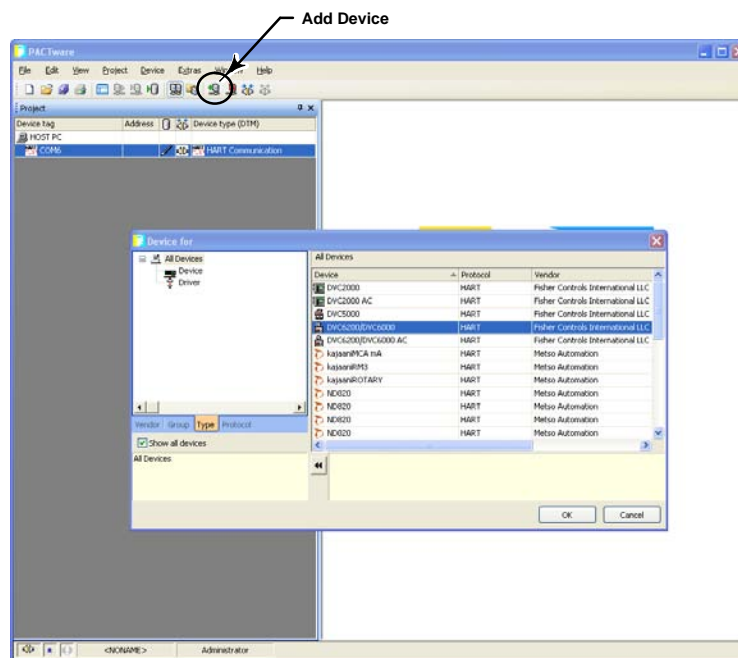

Figure 4-2. Select the DeviceDTM
**Step 3:** With the CommDTM highlighted, select Add Device, as shown in figure 4-2, and click on the appropriate Device DTM. Select OK.